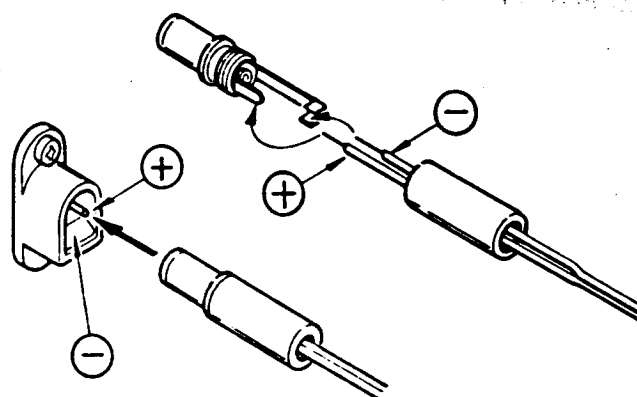

Figure 2-5
10. The DC power cord may now be wired as shown in Figure 2-5. A supply capable of providing 13.5 volts DC at 1.2 amp (min.) is required.